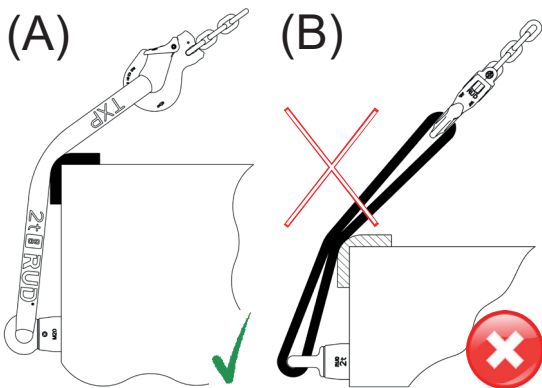

Fig. 9: (A) admissible application
- TXP round slings must not be crushed or lie on top of each other (Fig. 9). Prevent any folding of the TXP round slings in the lifting means (such as crane hooks, shackles or fittings). Considerably losses in strength can result.